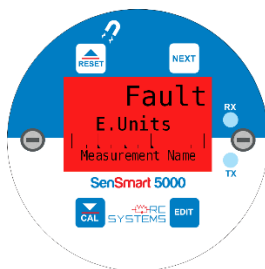

Figure 9 SenSmart 5000 Fault Screen
3. Apply a clean Zero Gas (Figure 9), using the Calibration Cup or be sure there is no background target gas in the monitored area. After the reading is stable, swipe the *Edit* key to set the Zero Calibration. To skip the Zero calibration, and go to the Span calibration, swipe the *Next* key. Once a message that the Zero calibration was completed successfully has been displayed, proceed to the next step.
4. Apply the correct, as indicated, span gas (Figure 9). After the reading is stable, swipe the *Edit* key to set the Span Calibration. To skip the Span Calibration, swipe the *Next* key. When a message that the Span Calibration was completed successfully is displayed, the gas detector will exit back to the Data Display Screen.